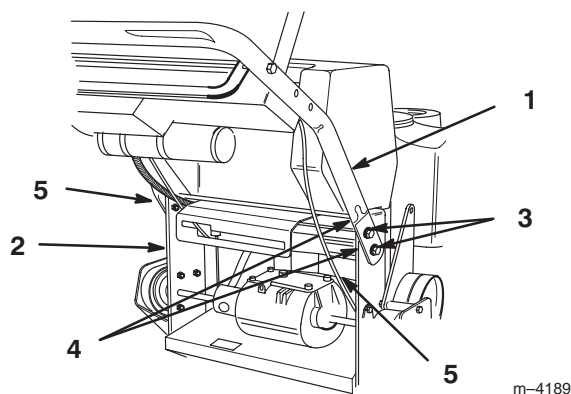

Figure 4
2. Secure each side with (2) 3/8 –16 x 1" (26mm) flange bolts and flange nuts (Fig. 4). Torque bolts to 25 ft. lbs. (34 N.m).
3. Route cables and wire harness inside of frame (Fig. 4). Secure wires and cable to handle with wire tie.